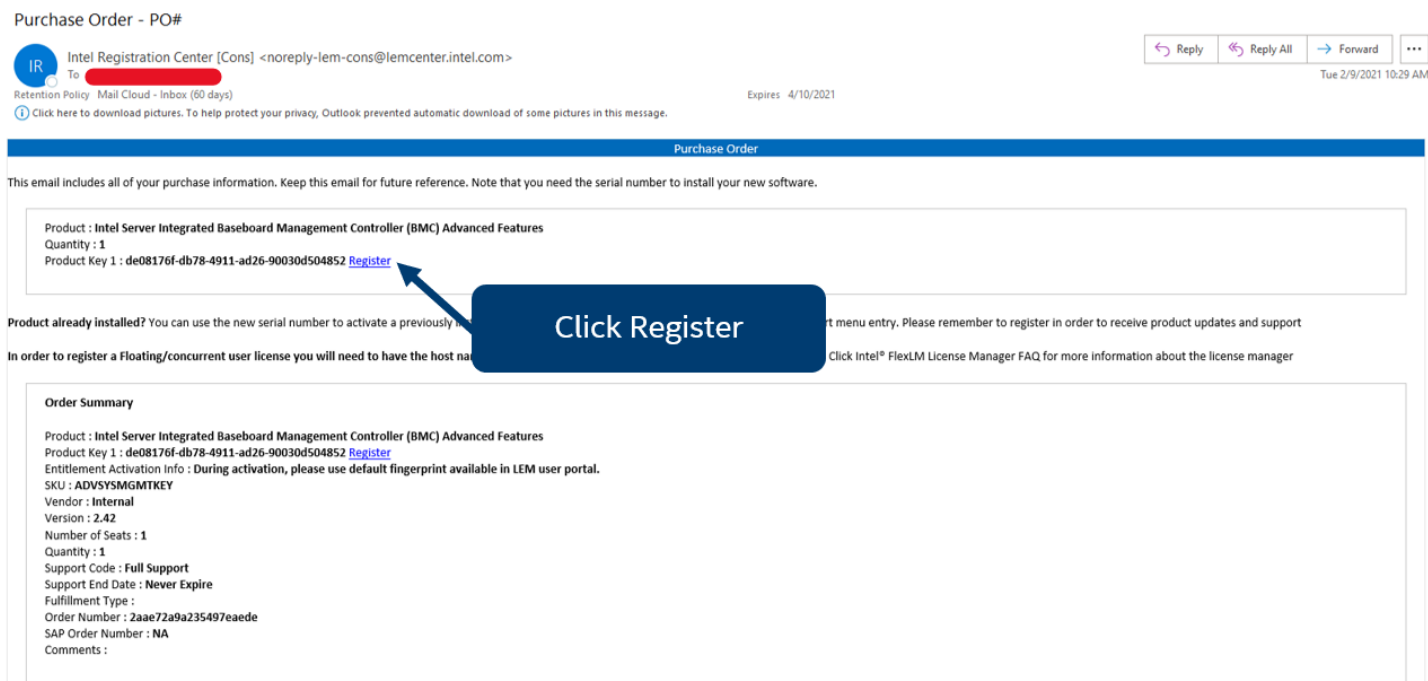

Figure 103. Example Email
3. From the email, click the **Register** link (see Figure 103) to go the <https://servertools.intel.com/registration> web page